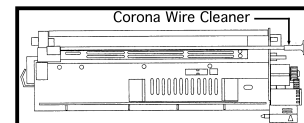

Figure 5
6. Clean corona wire assembly with cotton swab and 99% IPA (Fig 5).